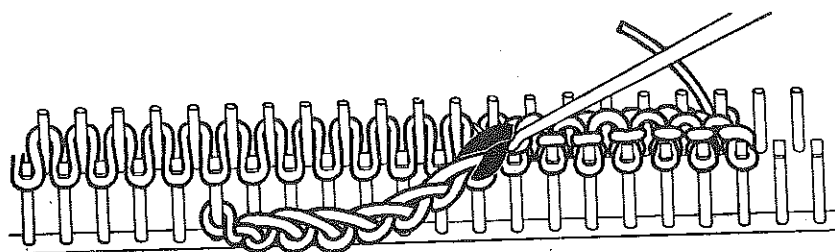

Fig. 17
N. Lift the row of stitches protruding on the base of the comb, each over **One Comb-Pin**. The first right hand stitch of every row is left untouched and **Not** lifted over. (Fig. 17.)
The first two knitted rows are lifted over with the pointed end of the special hook by inserting it **In Between** the comb pins **Under** the wool and then gently easing each stitch over the head of **Its Own** pin. (Fig. 17.)